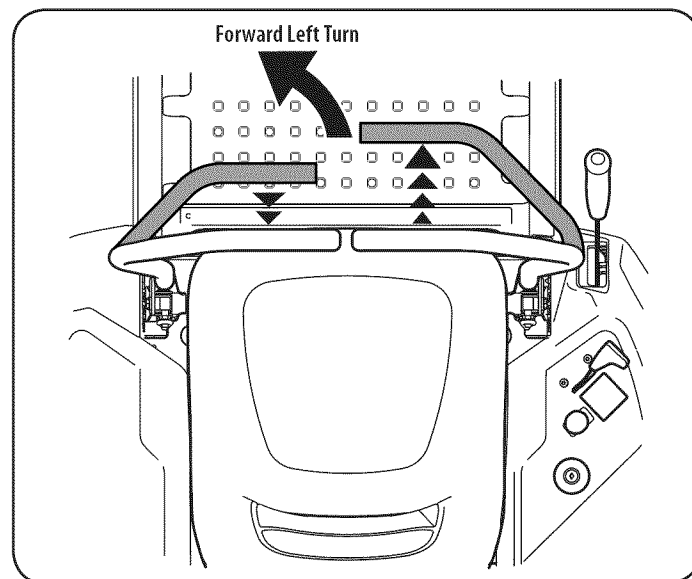

Figure 14
1. To turn to the left, move the left drive control lever rearward of the right lever. See Figure 14.